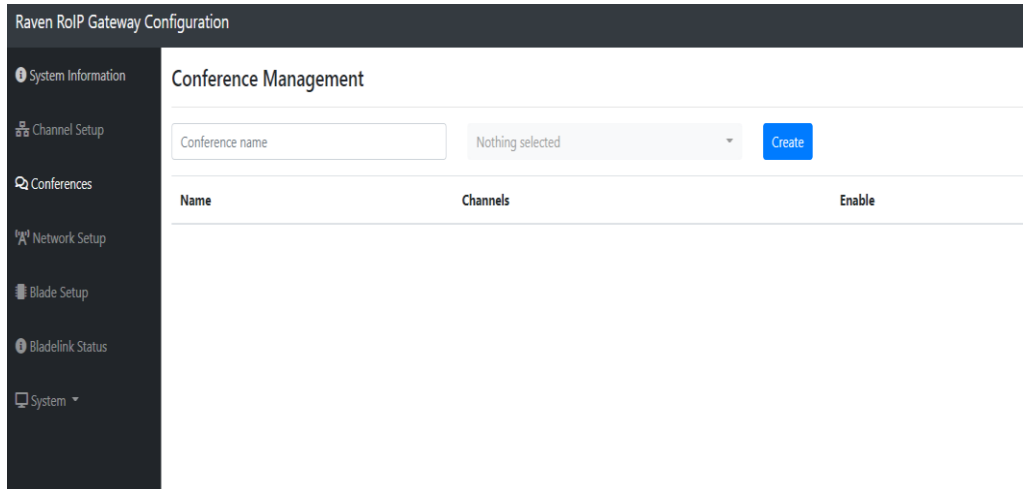

Figure 4-1: “Conferences” web interface.
1. Navigate to the “Conferences” page on the left side panel and it will look like Figure 4-1.